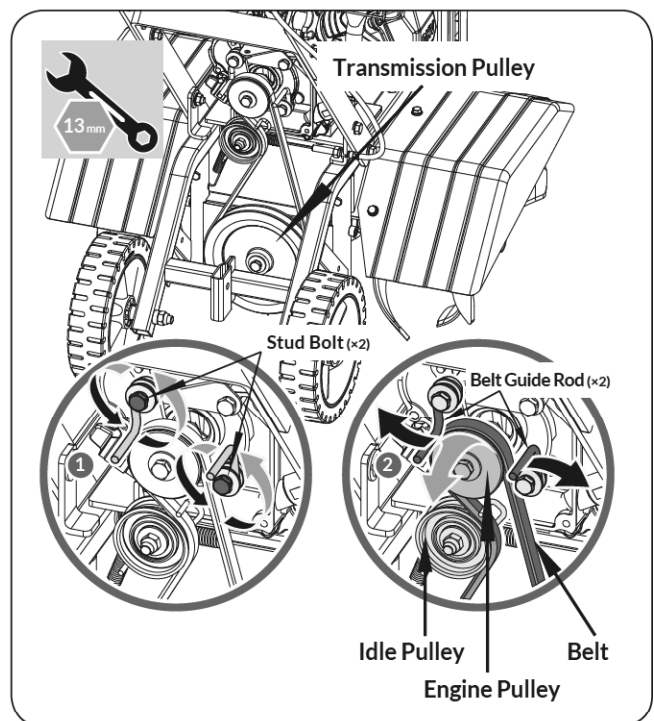

Figure 16b
2. Loosen the two stud bolts that fix both belt guide rods. (See **Figure 16b, Illustration 1**)
3. Remove the belt from both the engine pulley and transmission pulley. (See **Figure 16b, Illustration 2**)